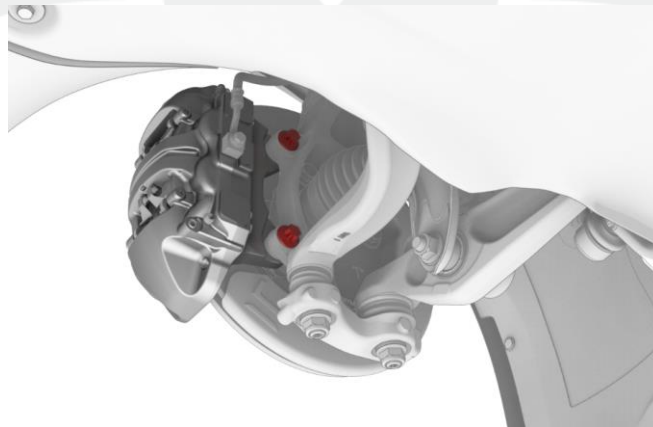

Figure 2 – Front caliper shown; rear caliper similar
4. At the LH front corner of the vehicle, inspect the following components for damage. Note any damage found in the "Cause Narrative" field of the Repair Order (RO).
5. Inspect the LH front brake caliper mounting bolts (Figure 2).